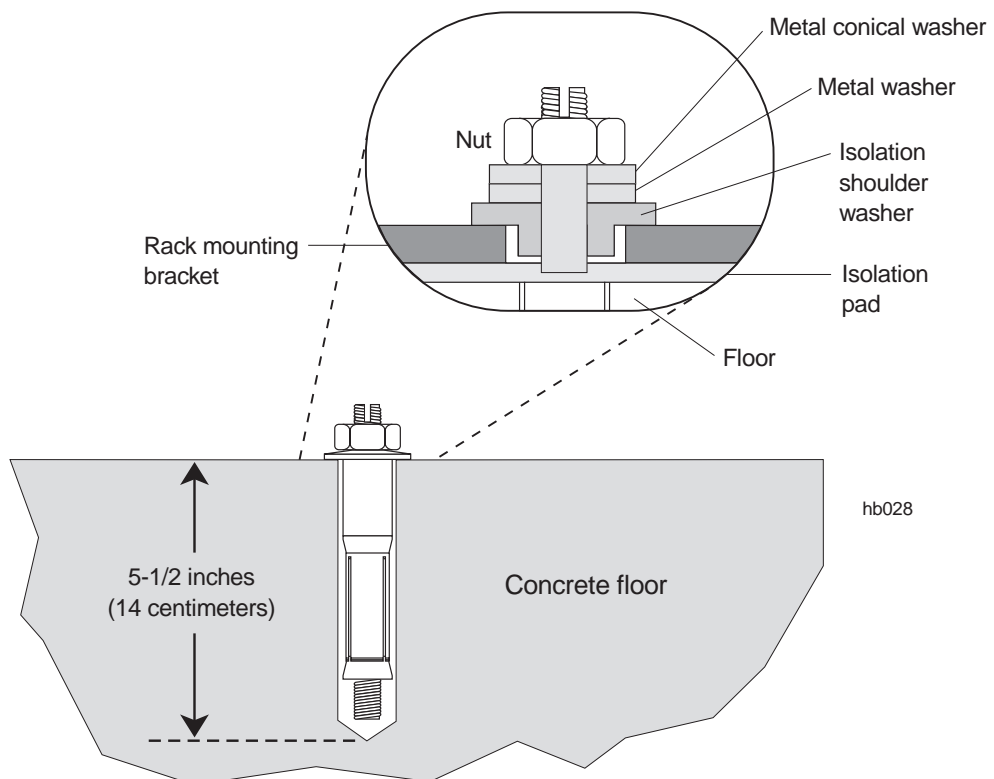

Figure 6-2 Installing safety bolts into a concrete floor
5. Using a 1-inch carbide-tipped drill bit, drill a hole 5 1/2 inches (14 centimeters) deep in each of the locations you marked in step 4. See figure 6-2.
6. Clean out the holes and position the isolation pad and rack mounting bracket over the holes as shown in figure 6-2.
7. Remove the nut and washers from each safety bolt, if used, and place the appropriate washers on the shaft, as shown in figure 6-2. Then drop a safety bolt into the hole.
Note: If you do not have a torque wrench, use a ratchet wrench to tighten the safety bolt until the conical washer (shown in figure 6-2) flattens completely.